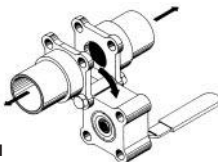

Figure 2: 'Swing-out' method
- c) Method 2: 'Swing-out' method: (see Figure 2). If only partial removal from the pipeline is required (i.e. to change seats, seals or ball only), then extract all of the body bolts bar one, which is only loosened. The body may then be rotated from between the two body connectors using the last remaining bolt as a pivot.